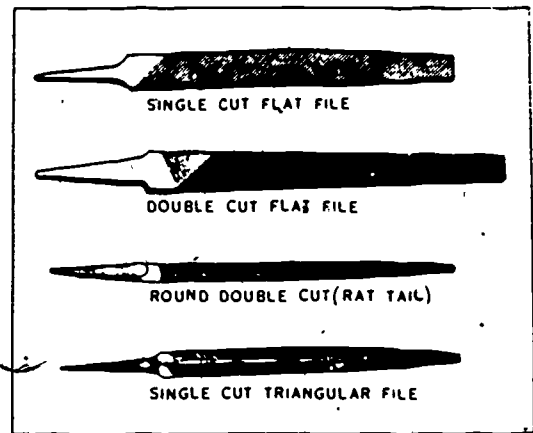

Figure 3-17 Various types of files.
**Files.** Files are used for cutting, smoothing, and removing small amounts of metal. Some of the different types are illustrated in figure 3-17. When filing, hold the file handle with your right hand and hold the end of the file between your thumb and first finger of your left hand. Use long, steady, and uniform strokes. Heavy pressure on the file is apt to clog the file or strip the teeth.